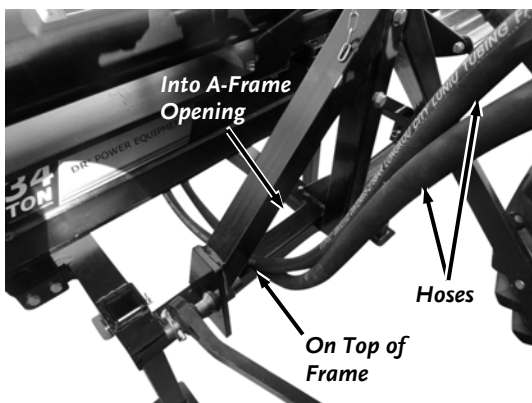

Figure 8
1. Insert the Hydraulic Hoses between the Frame and the Beam and then through the A-Frame opening of the-Frame (**Figure 8**).